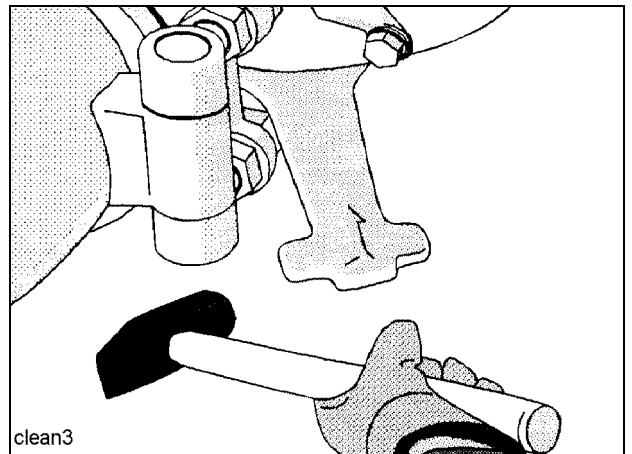

Fig.: 18
- Open the cleaning flap (Fig.: 18) under the rock valve housing